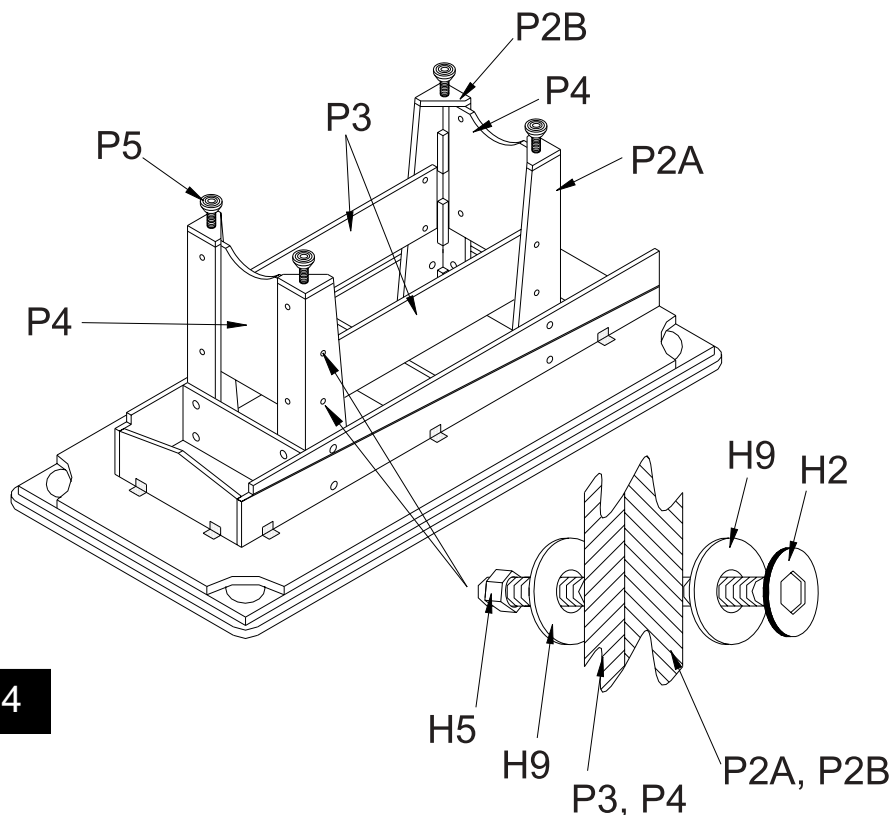

Figure 4
7. Attach the two spreaders **P3** and the two end panels **P4** as shown in **FIGURE 4** using bolts **H2** washers **H9** and nuts **H5**.
8. Attach one leg leveler **P5** to the bottom of each leg as shown in **FIGURE 4**.